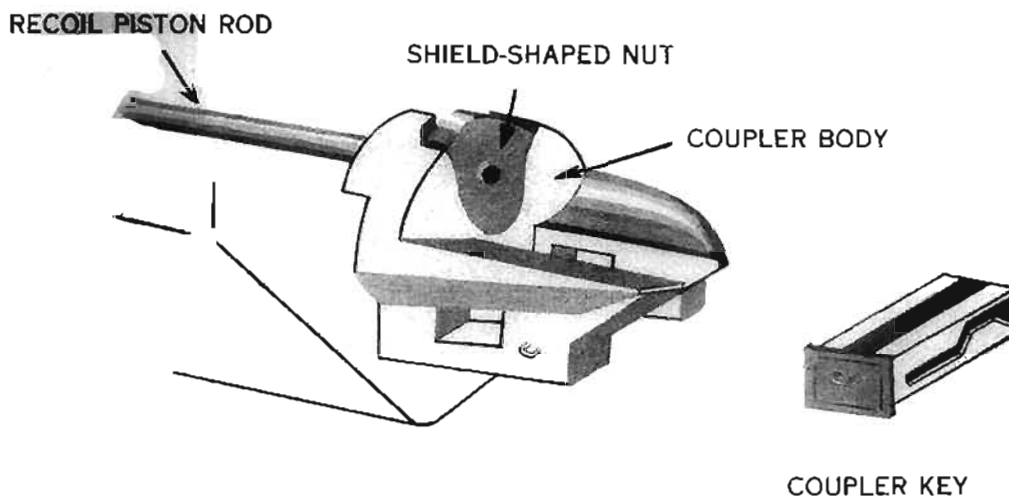

Figure 31
3. Piston rod coupler assembly (fig. 31), consisting of: